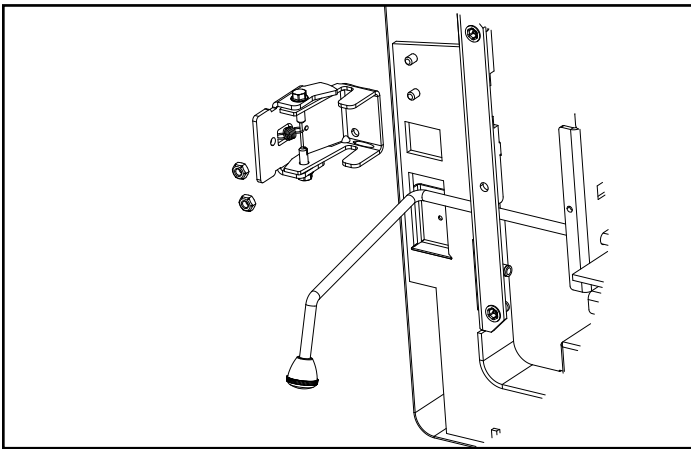

Figure 19.2
9. Install ARS latch by sliding latch assembly over 2 threaded studs protruding from the bottom on the left hand side of the appliance. Secure by using two nuts use 7/16 socket wrench (**Figure 19.2**).
10. Add knob to handle rod (**Figure 19.2**).